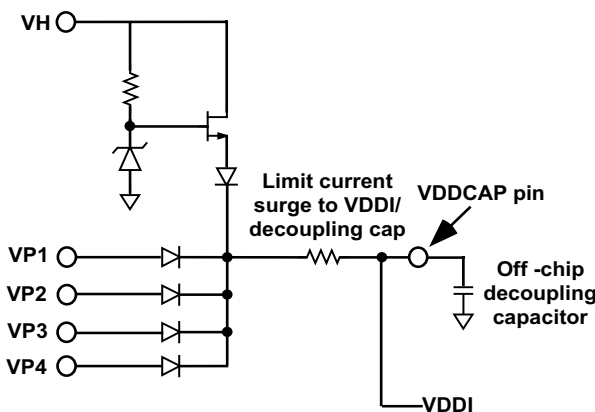

Figure 1. VDD Arbitrator Operation
The ADM1060 is powered from the highest voltage input on either the Positive Only supply inputs (VPn) or the High Voltage supply input (VH). The same pins are used for supply fault detection (discussed below). A V_{DD} Arbitrator on the device chooses which supply to use. The arbitrator can be considered to be diode OR'ing the positive supplies together (as shown in figure 1). In addition to this, the diodes are supplemented with switches in a synchronous rectifier manner, to minimise voltage loss. This loss can be reduced to ~0.2V, resulting in the ability to power the ADM1060 from a supply as low as 3.0V. Note that the supply on the VBn pins cannot be used to power the device, even if the input on these pins is positive. Also, the minimum supply of 3.0V must appear on one of the VPn pins in order to power up the ADM1060 correctly. A supply of no less than 4.5V can be used on VH. This is because there is no synchronous rectifier circuit on the VH pin, resulting in a voltage drop of ~1.5V across the diode of the V_{DD} Arbitrator.
An external cap to GND is required to decouple the on-chip supply from noise. This cap should be connected to the VDDCAP pin, as shown in figure 1. The cap has another use during "brown outs" (momentary loss of power). Under these conditions, where the input supply, VPn, dips transiently below V_{DD}, the synchronous rectifier switch immediately turns off so that it doesn't pull V_{DD} down. The V_{DD} cap can then act like a reservoir and keep the chip active until the next highest supply takes over the powering of the device. 0.1µF is recommended for this function.
The OV and UV comparators, shown in figure 1, are always looking at V_{Pn} via a potential divider. In order to avoid chattering (multiple transitions when the input is very close to the threshold level set), these comparators have digitally programmable hysteresis. The UV and OV hysteresis can be programmed in two registers which are similar but separate to the UV or OV threshold registers. Only the 5 LSB's of these registers can be set. The hysteresis is added after the supply voltage goes out of tolerance. Thus, the user can determine how much above the UV threshold the input must rise again before a UV fault is de-asserted. Similarly, the user can determine how much below the OV threshold the input must fall again before an OV fault is de-asserted. The hysteresis figure is given by:-